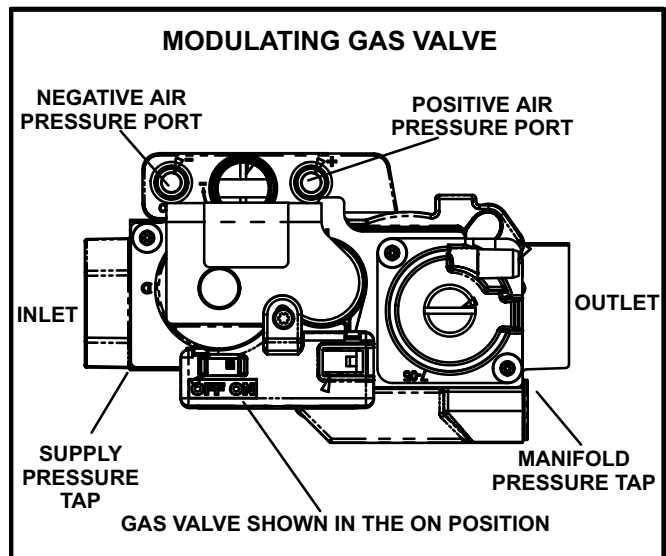

FIGURE 2
- 2 - Remove the heating compartment access panel. Move the automatic gas valve switch to the **OFF** position. See figure 2.
- 6 - Move gas valve switch to **OFF**. See figure 2.
- 7 - Wait five (5) minutes for any gas to clear out. If you then smell gas, **STOP!** Immediately call your gas supplier from a neighbor's phone. Follow the gas supplier's instructions. If you do not smell gas, go to the next step.
- 8 - Move gas valve switch to **ON**. See figure 2.